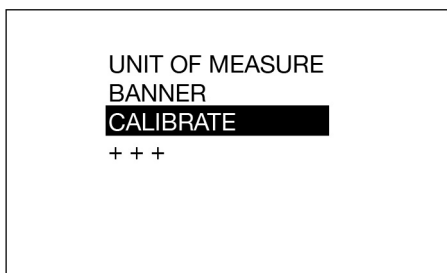

FIG. 25
- Use the UP or DOWN ARROW button on the keypad to highlight CALIBRATE (FIG. 25) and then press the center ENTER button on the keypad to select the CALIBRATE option.